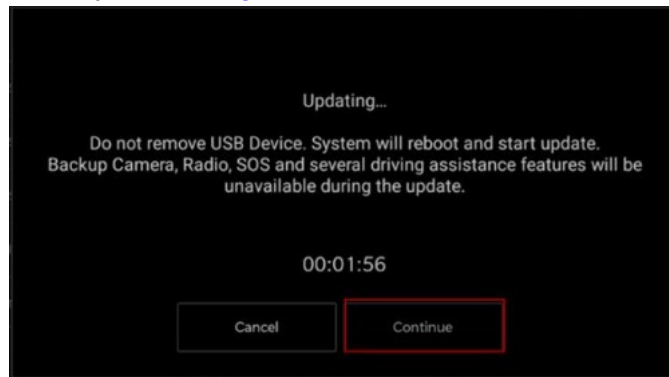

Fig. 3
13. Press the “Continue” on the display screen Fig.3.